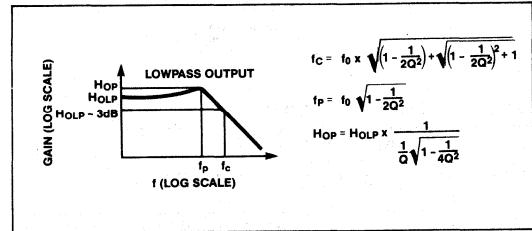

Figure 2. Lowpass Filter Terminology
- HOLP:** The gain in V/V of the lowpass output as f→0Hz, See Figure 2.